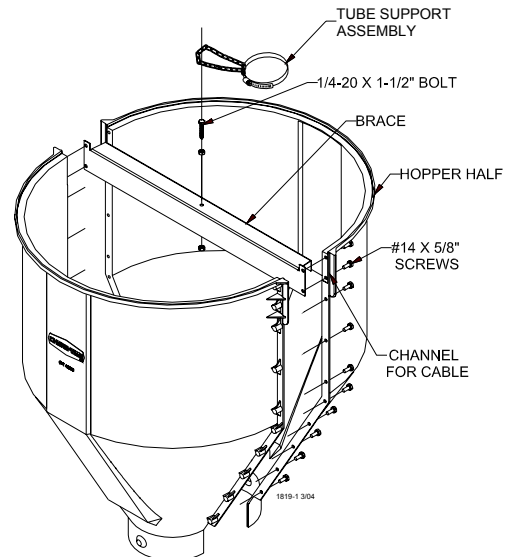

Figure 20.
1. Assemble the 1/4-20 x 1-1/2" bolt to the brace with two 1/4-20 nuts. One nut should be assembled under the brace with the other on top. This bolt is to provide a place for the tube support assembly chain to be hooked, **see figure 20**.
2. Assemble the 150 lb. hopper halves and brace as shown in **Figure 20**, using #14 x 5/8" screws (supplied in hardware package).